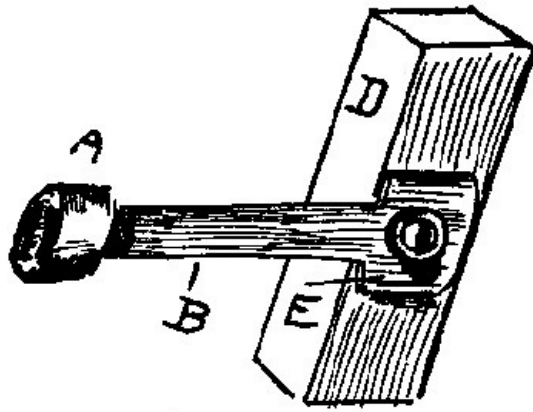

Fig. 51.
**104. Trembling Armature.** Fig. 51. When very rapid motions are desired in a trembling armature, App. 77 will be a little heavy. A light and quick-acting armature can be made of sheet-tin. The exact dimensions will depend upon the use to be made of it, but you will find the following a guide. Cut the part, *B*, *E*, out of *thin* tin. The covers and bottoms of tin cans are thinner than their bodies. The narrow part, *B*, should be about  $\frac{1}{4}$  in. wide and 2 in. long for